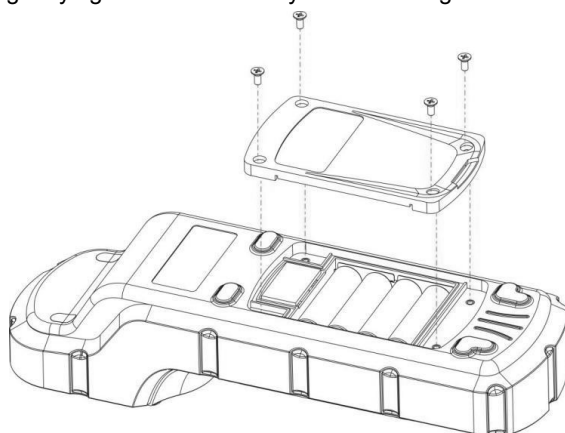

Figure 1 Replace Batteries
The AP50MM battery compartment, shown in Figure 1, is on the back side of the instrument. Insert a small pad underneath the screen area to make the back-surface level when the instrument is turned upside down. Install batteries as follows:
2. Insert four batteries into the battery holder as shown in Figure 1. Make sure the positive battery polarity marker (+) is aligned with the positive marker (+) on the battery holder.